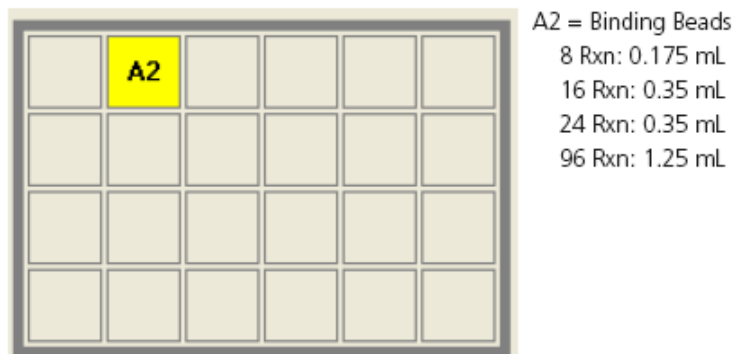

Figure 24 24-well plate for Part 2 deck setup.
- Figure 24—Pipette the correct reagent volumes in the 24-well plate